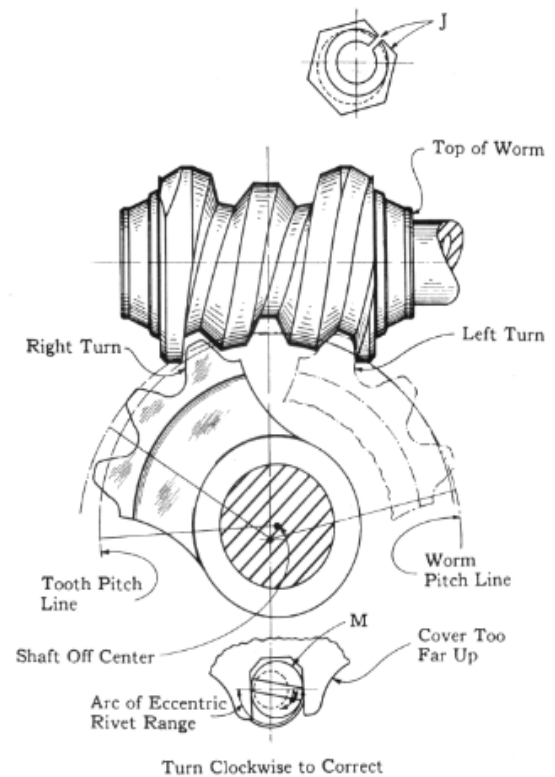

Figure 15
99. If the lash is more at right, turn eccentric rivet (M) in clockwise direction. (See Figure 15.)